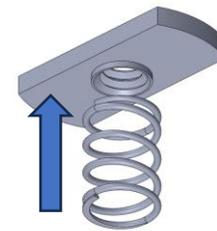
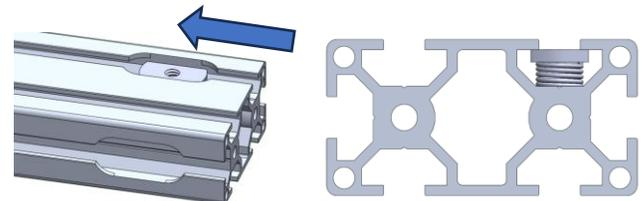

Figure 7: Combining the Spring with the Track Nut
Figure 8: Installing Track Nut & Spring into Crossbar
- Install spring onto track nut and insert into one of the crossbars as shown in Figure 7 & Figure 8.